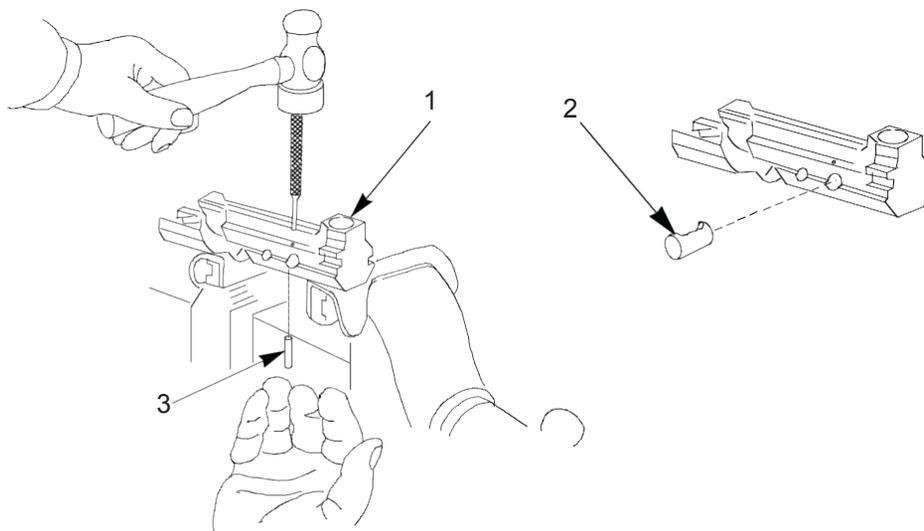

Figure 4. Pivot Slide Removal.
8. Reposition slide assembly (Figure 4, Item 1) on top of vise with jaws slightly open. Drive out spring (Figure 4, Item 3) and discard.
9. Remove pivot slide (Figure 4, Item 2).